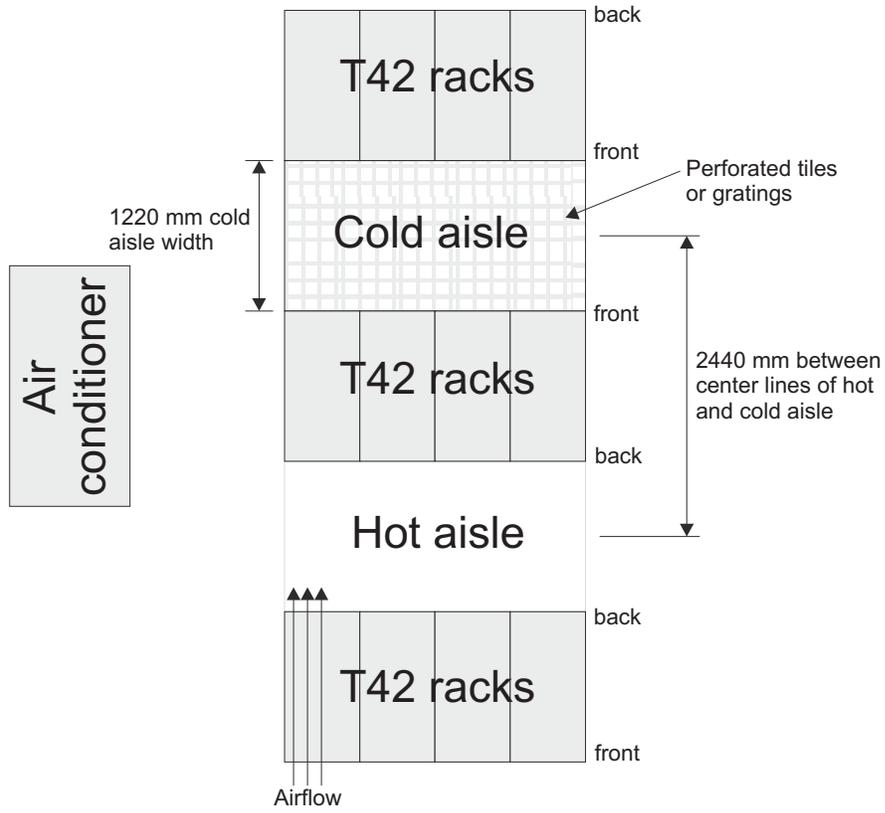

Figure 8. Example of cold aisle/hot aisle rack configuration
- Air enters at the front of the rack and leaves at the back. To prevent the air that is leaving the rack from entering the intake of another piece of equipment, you must position the racks in alternate rows, back-to-back and front-to-front. This arrangement is known as “cold aisle/hot aisle” and is shown in Figure 8 on page 28.